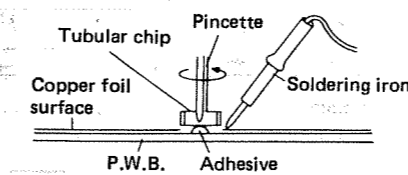

Figure 23-2
- Holding the chip with a pincette, take it off gently using the soldering iron's heat applied on each terminal of it. See Fig. 23-2.